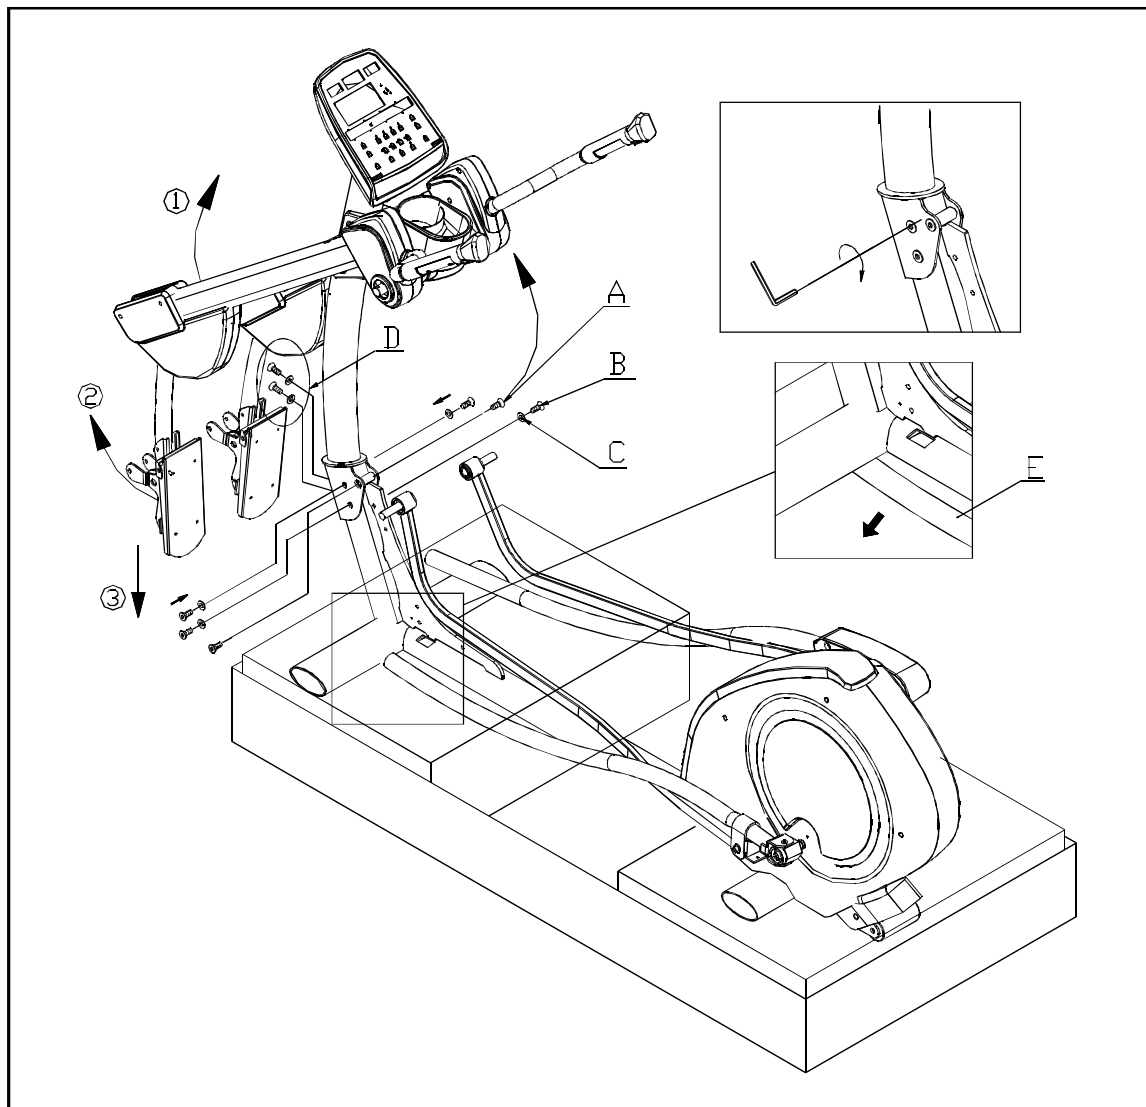

Fig.1
**STEP 2.** The screw A is loosely attached before assembly. Raise the main post or pedestal into position. Secure the pedestal hardware in sequence, first D, then A, B and C. (Please See Fig.1)